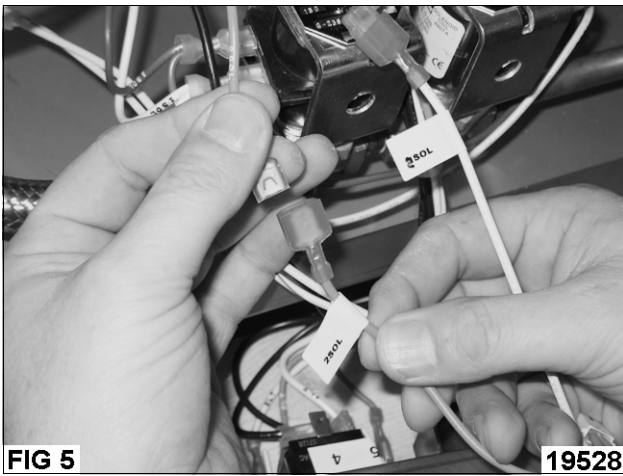

FIG 5 19528
1. Assemble drain tempering plumbing to the cold water line per Fig 5. Connect cold water (45° F to 70° F [7° C to 21° C]) to the 1/2" NPT union fitting.
4. Hook up the 2 removed wires to two wires marked as 2 SOL in wiring harness 814267. (Pink to pink, white to white) per Fig. 5.